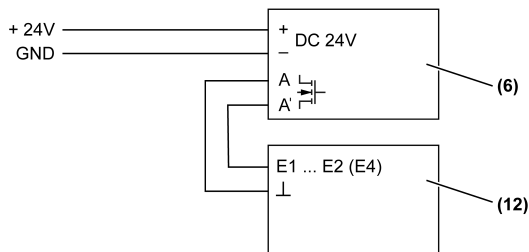

Figure 10: Connection to Room temperature controller with push-button interface 4-gang, Room autostat with push-button interface 4-gang, CO2 multi-sensor
| (Figure 10) | (12) Room temperature controller with push-button interface 4-gang, Art. no.: ..2178TS, Room autostat with push-button interface 4-gang, Art. no.: ..2178 ORTS., CO2 multi-sensor, Art.no.: CO2..2178.. |